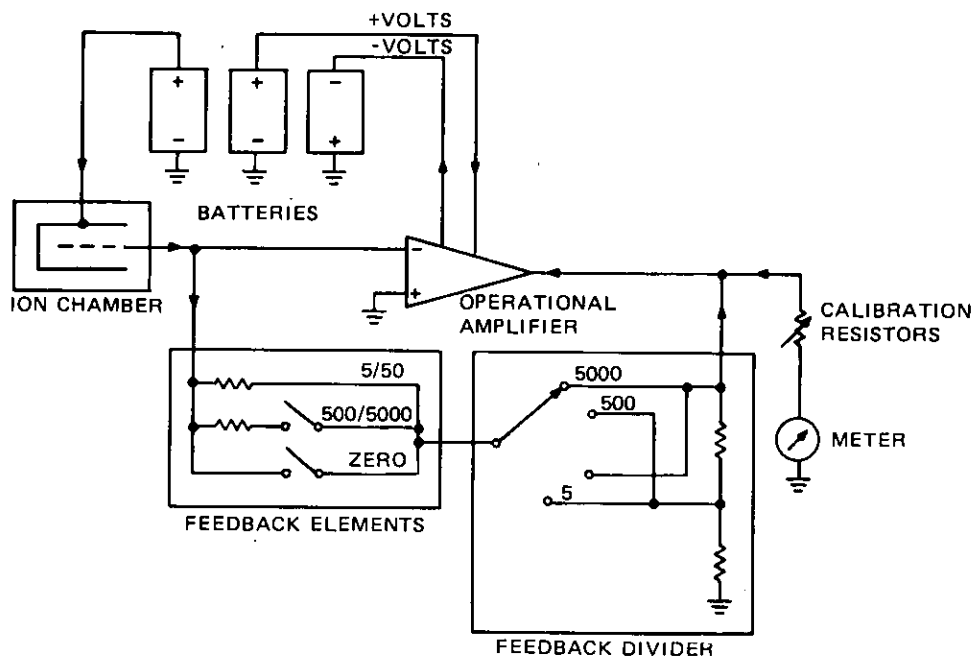
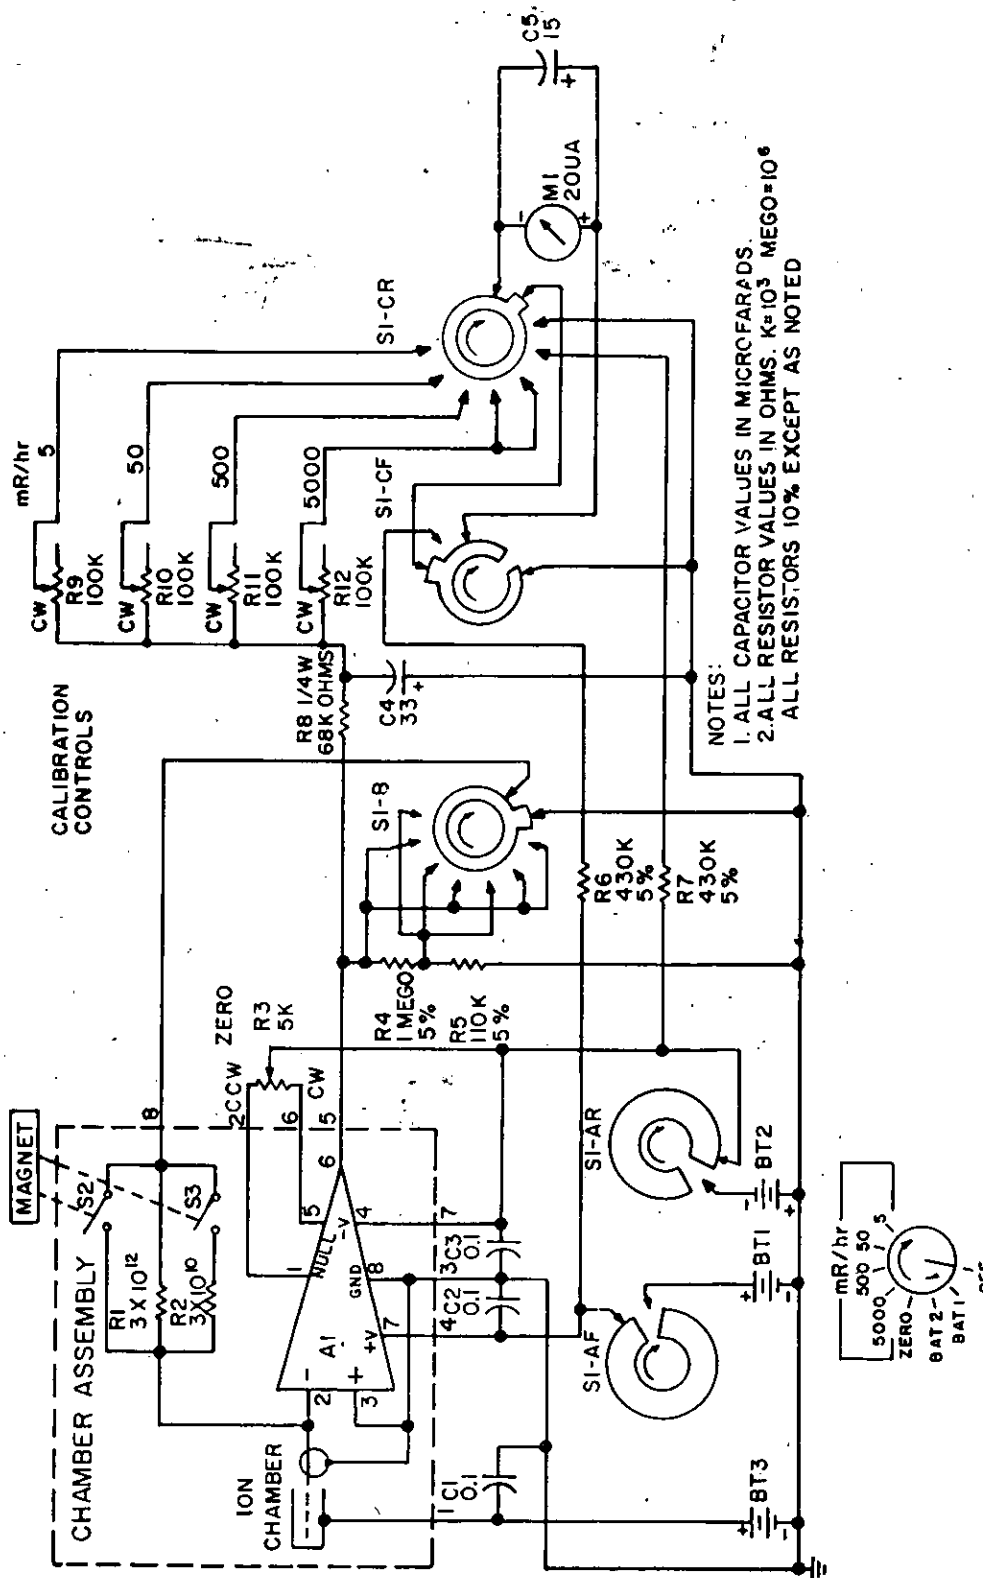

Figure 3-1. System Block Diagram
Figure 6-1, RO-2 General Schematic, (10603-B24G)
Refer to Figure 3-1, a block diagram representing the basic operation of the circuit. The ion chamber has battery potential between the inside wall and the center electrode. When the air in the chamber ionizes due to radiation, a minute current flows through the chamber causing the minus input lead of the operational amplifier to go very slightly positive. This results in a negative swing of the amplifier output which is connected to the feedback elements through a divider circuit. The feedback elements are connected to the amplifier input and ion chamber and they conduct away all of the current generated in the ion chamber. The meter is also tied to the output of the amplifier and indicates in proportion to amplifier output voltage. Range changing is done by selecting different feedback elements and by selecting different points on the feedback divider.
The schematic diagram Figure 6-1, the system block diagram Figure 3-1, and Section III "Theory of Operation" are the primary aids to troubleshooting.
2. If the meter remains pegged and will not zero when the *ZERO* position is selected, check for proper battery voltages. Try pressing the magnet down against the chassis plate to make sure that S2 is pulled in. Using the schematic Figure 6-1 as a guide, check for proper voltages at the chamber assembly terminals. Terminal 1 should be at plus battery voltage, terminal 2 should be slightly less negative than the negative battery voltage, terminal 3 should be ground, etc. If these voltages appear normal, but terminals 5 and 8 are of the same polarity, the amplifier is probably defective and should be changed. Observe how the old amplifier was installed and install the new one the same way.